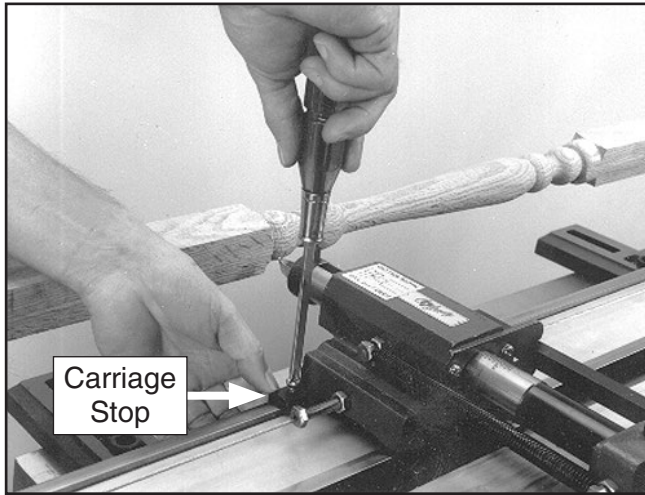

Figure 19. Adjusting carriage stops.
6. Move carriage stylus to left hand limit of profiled area and adjust left hand carriage stop until it contacts carriage, then tighten stop (see **Figure 19**).